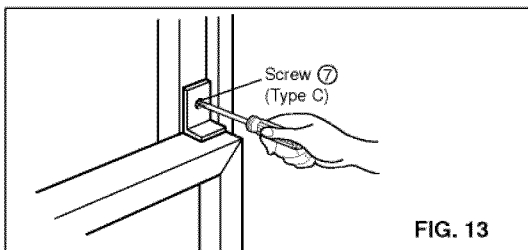

FIG. 13
**11** Attach the window locking bracket with a TYPE C screw (7). See FIG. 13.